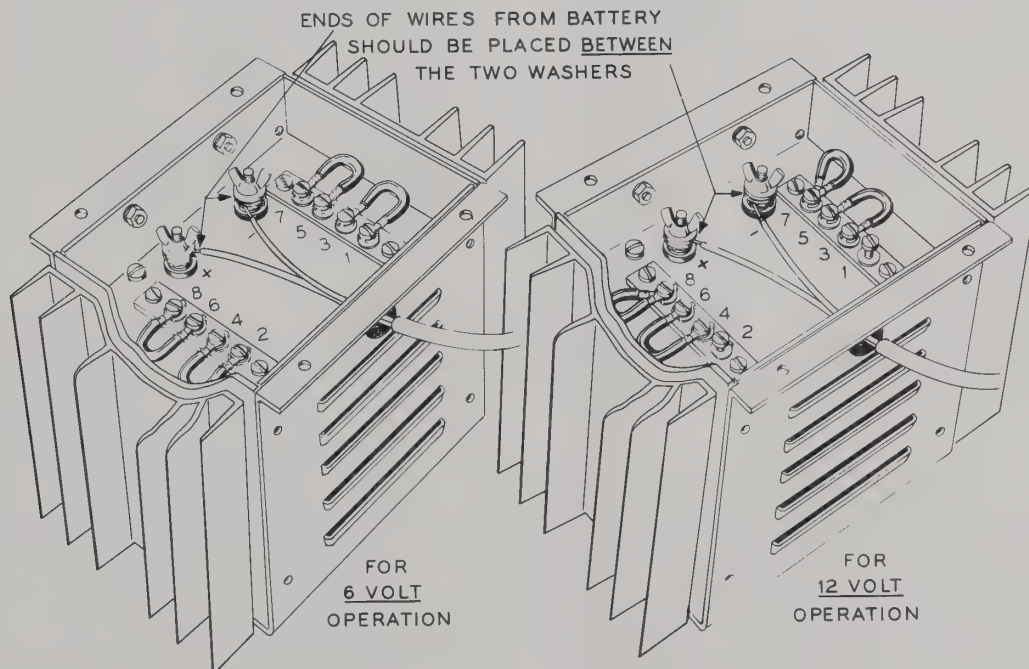

Figure 19
- (✓) Set the jumpers for 12 volt operation. See Figure 19.
- ( ) Connect the short jumpers on the underside of the MP-10 as per instructions. See Figure 19.
- ( ) Run the battery wires (not connected to the battery) through the 1/2" grommet of the MP-10 and connect them to the proper terminals on the underside of the unit. Watch the polarity. See Figure 19.